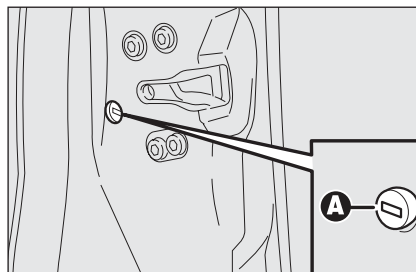

fig. 92
- ☐ fit the electronic key metal insert into **A-fig. 92**;
- ☐ remove the key from **A-fig. 92** and then refit the plug on the door.